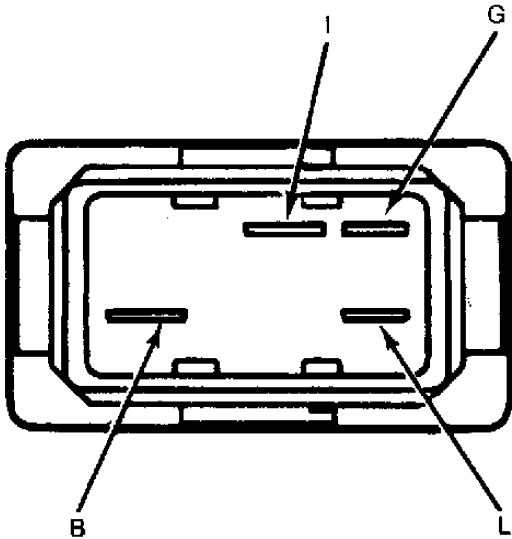

Fig. 1: Jeep Control Switch Terminals
1) On Cherokee, Comanche and Wagoneer models, turn ignition switch to "ON" position. Check for current at "I" and "B" terminals. See Fig. 1. If there is no current, check circuit and repair as necessary. Make sure that switch has a good ground through wire connected to "G" terminal.